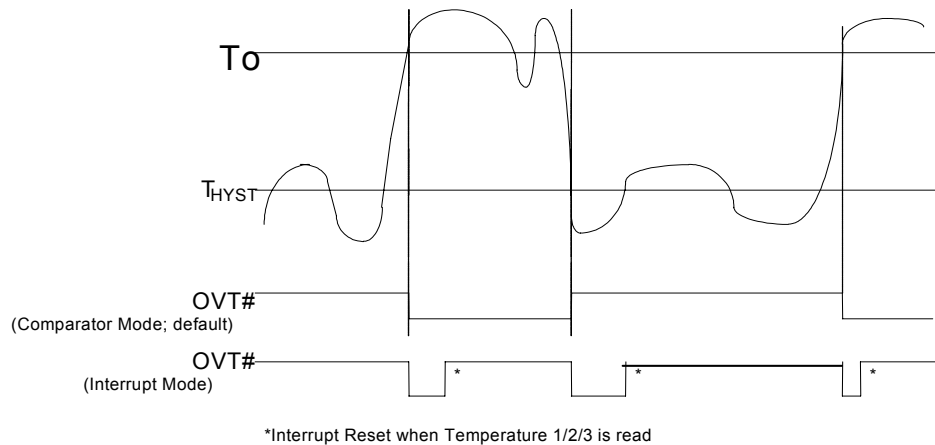

Figure 11 Over-Temperature Response Diagram
The W83792D/G can be connected three thermistors to measure three different environmental temperatures. The specification of thermistor should be considered to (1) β value is 3435K, (2) resistor value is 10K ohms at 25°C. In the Figure 11, the thermistor is connected by a serial resistor with 10K Ohms(1% error), then connect to VREF (Pin 37).
The W83792D/G can alternate the thermistor to Pentium IV™ thermal diode interface or transistor 2N3904 and the circuit connection is shown as Figure 11. The pin of Pentium IV™ D- is connected to power supply ground (GND) and the pin D+ is connected to pin VTINx in the W83792D/G. The resistor R=30K ohms should be connected to VREF to supply the diode bias current and the bypass capacitor C=3300pF should be added to filter the high frequency noise. The transistor 2N3904 should be connected to a form with a diode, that is, the Base (B) and Collector (C) in the 2N3904 should be tied together to act as a thermal diode.
Temperature exceeding T_O causes the OVT# output activated indefinitely until reset by reading temperature sensor 1 or sensor 2 or sensor 3 registers. Temperature exceeding T_O , then OVT# reset, and then temperature going below T_{HYST} will also cause the OVT# activated indefinitely until reset by reading temperature sensor 1 or sensor 2 or sensor 3 registers. Once the OVT# is activated by exceeding T_O , then reset, if the temperature remains above T_{HYST} , the OVT# will not be activated again. (Figure 11)